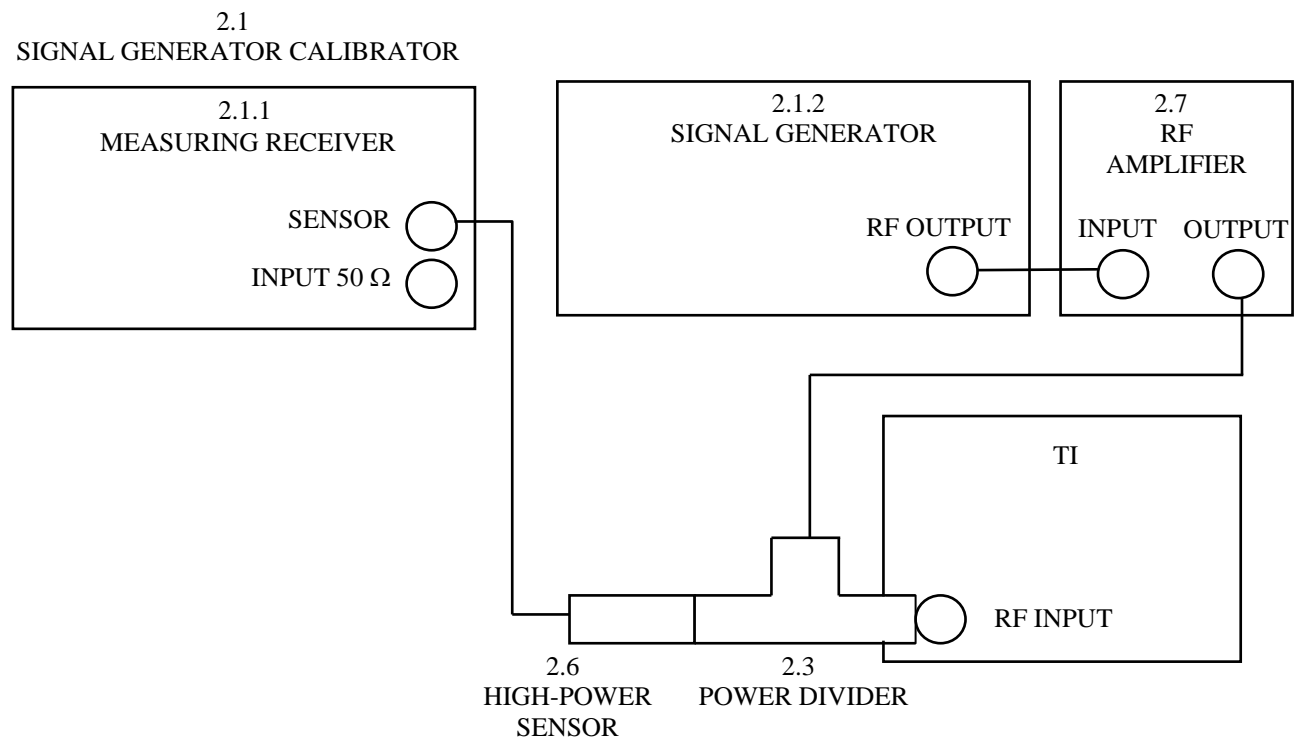

Figure 4. Carrier Level Measurement Test Configuration
4.2.3.4 Connect the equipment as shown in Figure 4.